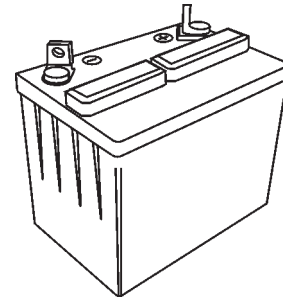

Figure 10. Battery
DO NOT over fill the fluid reservoir (Figure 10). Note the level marks on the reservoir. **It is essential to reference the existing oil conditions (A) cold or (B) hot prior to operating the saw.** Overfilling the transmission with hydraulic fluid may cause the seals to **rupture** causing mechanical damage.
Battery (Self-Propelled models only) - The 12-volt DC battery (Figure 10) is shipped **dry**, and will require a proper electrolyte level for operation.